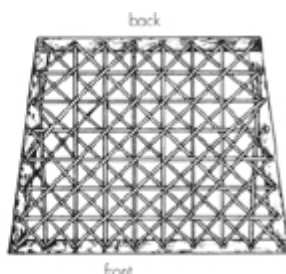

fig. 12
5. This is the second diagonal stage. Start the cane in the back left corner hole. Weave the cane over the first diagonal and under the crossing of the last three stages. Continue this way until you reach the right side or front rail. Go down whichever hole is necessary to form a true diagonal, up the adjacent hole and weave back again. Continue weaving until you have completed one-half of the seat. Go back to the center and finish the other half of the seat. You will have only one strand of cane in each corner hole. See Figure 12.